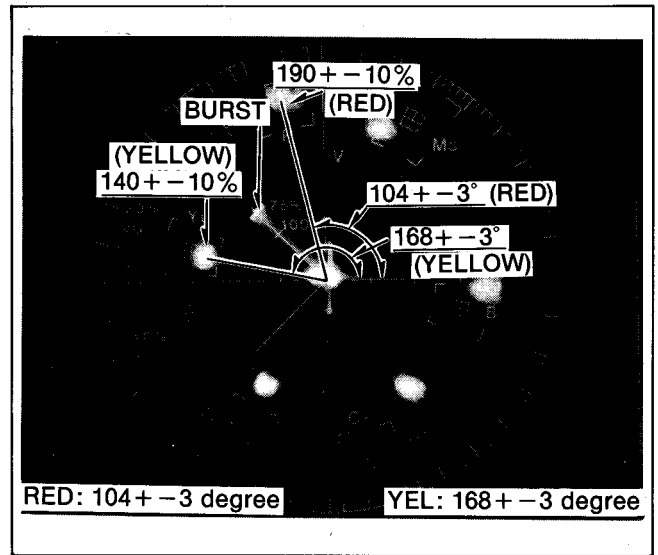

Fig. C21
4. * Push [INC] or [DEC] keys until phase of red and yellow vectors are as close as possible to Spec. See Fig.C21.
7. * Push [INC] or [DEC] keys until phase of red and yellow vectors are as close as possible to Spec. See Fig.C21.
10. * Push [INC] or [DEC] keys until phase of red and yellow vectors are as close as possible to Spec. See Fig.C21.
13. * Push [INC] or [DEC] keys until phase of red and Yellow Vectors are as close as possible to Spec. See Fig.C21.